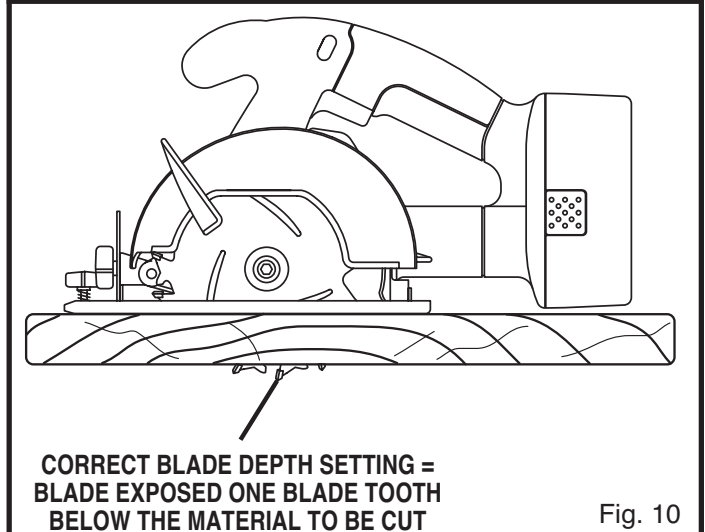

Fig. 10
- Always keep the correct blade depth setting – the correct blade depth setting for all cuts should not exceed 1/4 in. (6.4 mm) below the material to be cut. See Figure 10. One blade tooth below the material to be cut works best for most efficient cutting action.